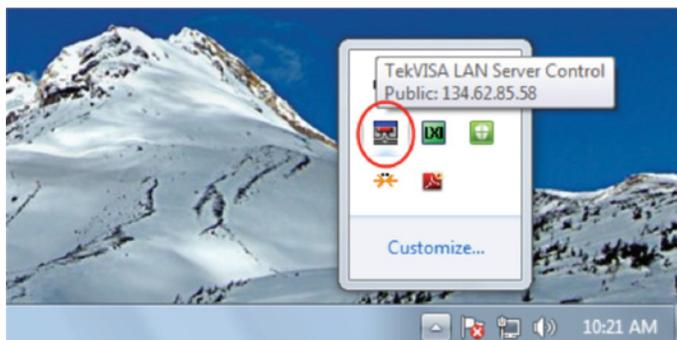

Figure 3. Easily find IP address of the scope from the LAN Server Control icon in system tray.
2. To easily get the IP addresses of the instruments, you can hover-over the LAN Server Control icon in the system tray (Shown in Figure 3) and see the current IP address of the scope as assigned by the network.